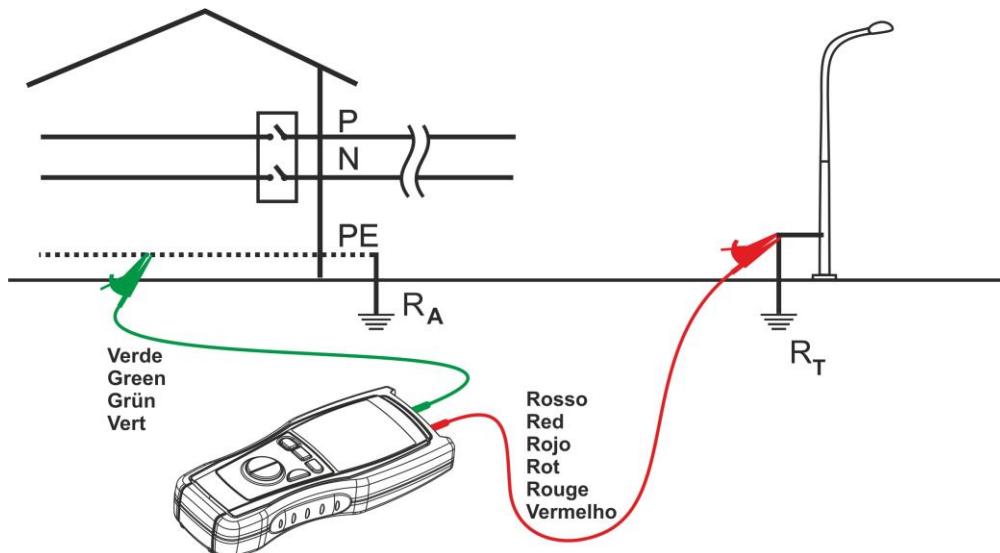
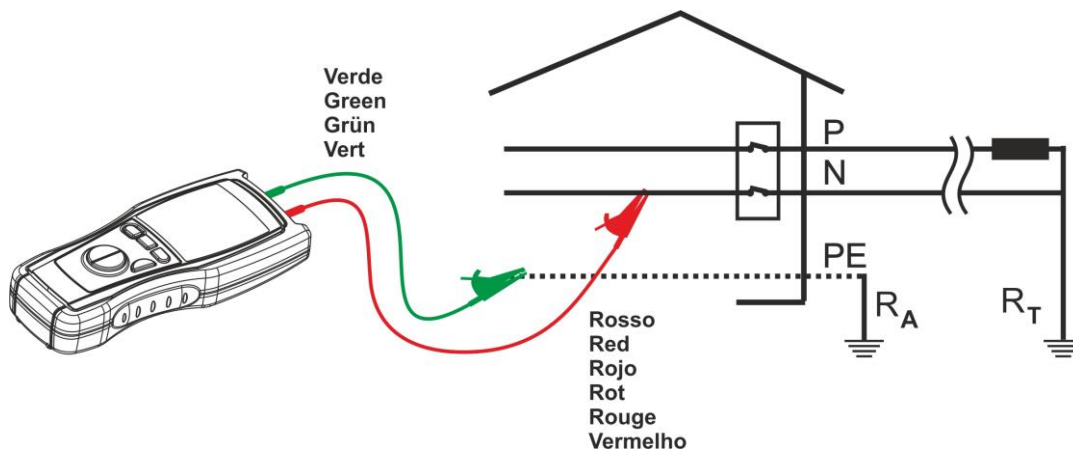

Fig. 3: Example of instrument's wiring for two-wire earth measurement
Fig. 4: Example of instrument's wiring for 2-wire earth measurement (only for TT systems).
- In Fig. 3 a lamp post is used as auxiliary rod. However a water pipe or any metal body driven into the ground is suitable provided that the above mentions requirements are met
- Only in case of a TT system a neutral conductor can be used as auxiliary earth rod (see Fig. 4).
7. Connect the instrument's terminals to the circuit under test (see Fig. 4 and Fig. 3).